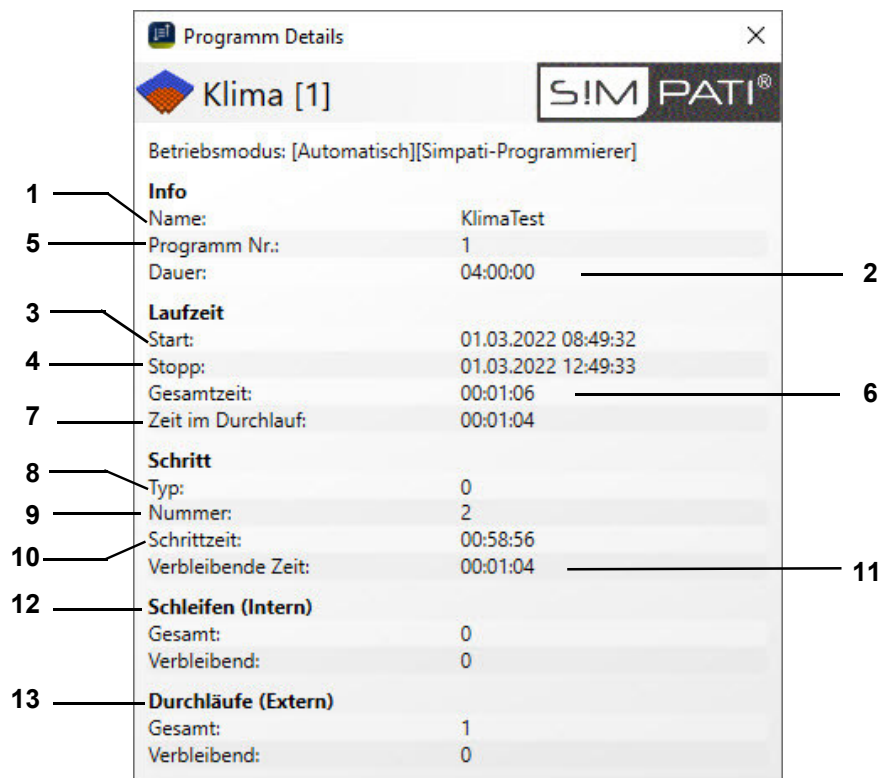

Fig. 10-4 Information window for automatic/program mode
- 11 In automatic/program mode you can access a menu window containing information about the test program → Fig. 10-4 »Information window for automatic/program mode« (page 90).